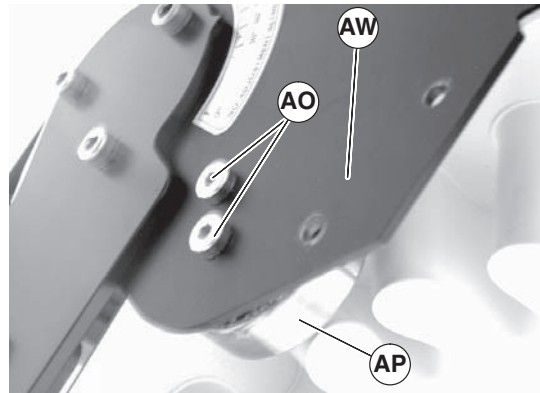

Figure 33
- If equipped, install return roller bearing (Figure 33, item AP) into knuckle plate (AW) using screws (AO).